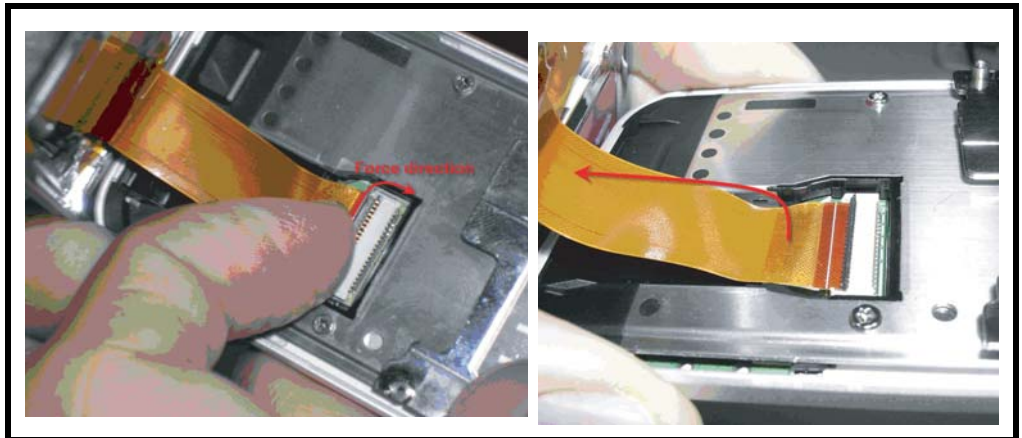

Figure 13. Remove the FPC from Lower module
7. Unlock the connector switch to pull out the FPC from Lower module by fingernail and separate the Upper module from Lower module illustrated in Figure 13.